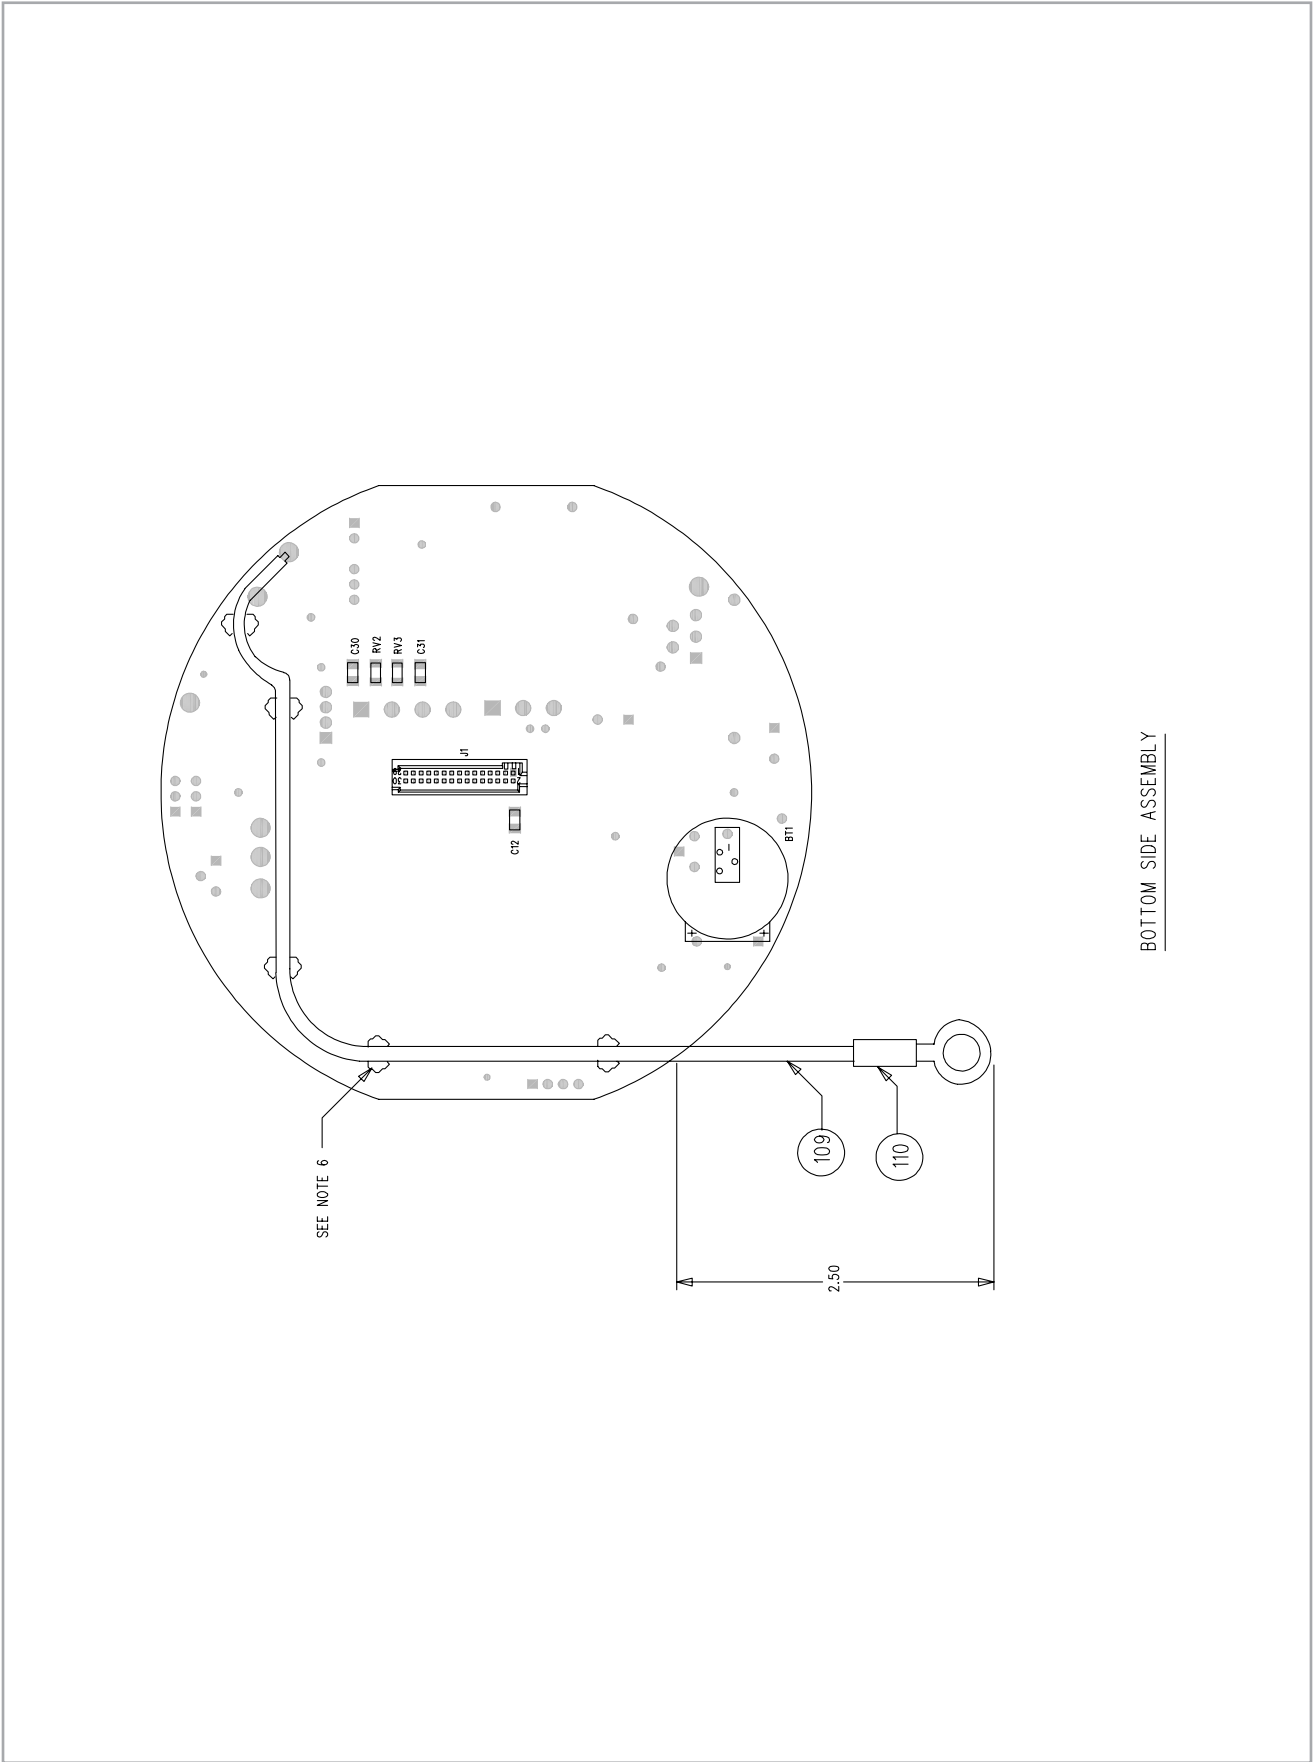

Figure 66: Digital PCB assembly (ref. dwg #703-1316, rev. K, sh. 2)
- Figure 66, "Digital PCB Assembly (ref. dwg #703-1316, rev. K, sh. 2)" on page 51